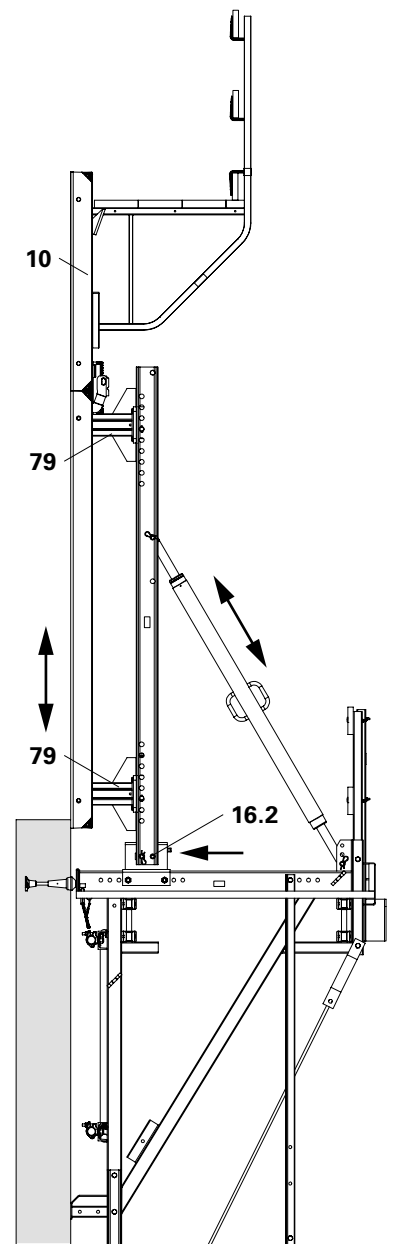

Fig. B2.20
6. Insert formwork (78) with Lifting Hook MAXIMO 1.5 t (80) into the Connectors TRIO-CB (79) and secure using bail \varnothing 25 (79.1).
9. Align formwork, see B3. (Fig. B2.20)